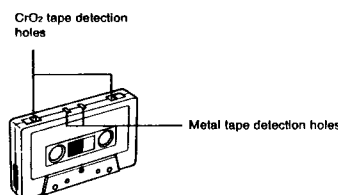

Fig. 2
- 1) Loose tape may become tangled in the tape transport mechanism. Remove slack by winding the tape with a pencil. (Fig. 2)